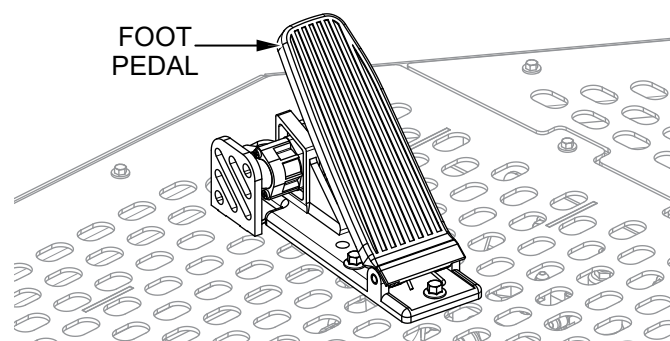

Figure 23. Foot Pedal
The **foot pedal** (Figure 23) controls engine and rotor speed. The position of the foot pedal determines the rotational speed of the rotors. Slow rotor speed is obtained by slightly depressing the foot pedal. Maximum rotor speed is obtained by fully depressing the foot pedal.
- Start the engines and depress the **foot pedal** (Figure 23) to increase rotor speed to the desired speed.